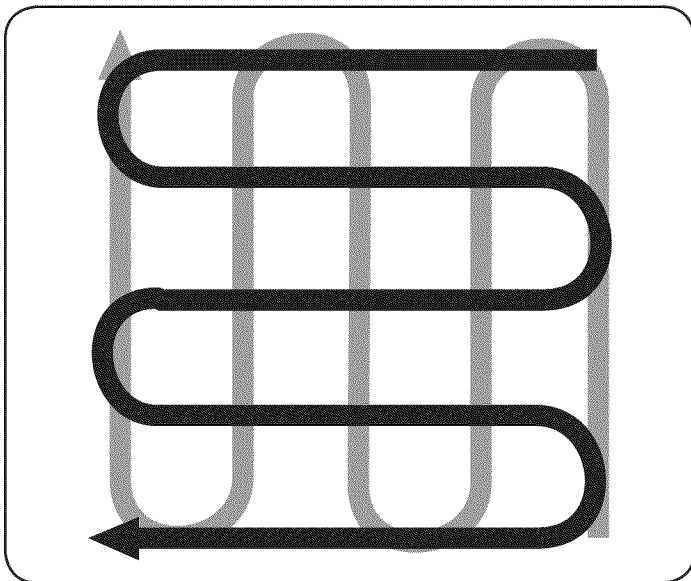

Figure 18
- When finished in one direction, make a second pass at a right angle, See Figure 18. Overlap each pass for the best results (in very hard ground, it may take three or four passes to thoroughly pulverize the soil.)
3. Measure the plug gap with a feeler gauge. Correct as necessary by bending side electrode. See Figure 18. The gap should be set to 0.030 in.